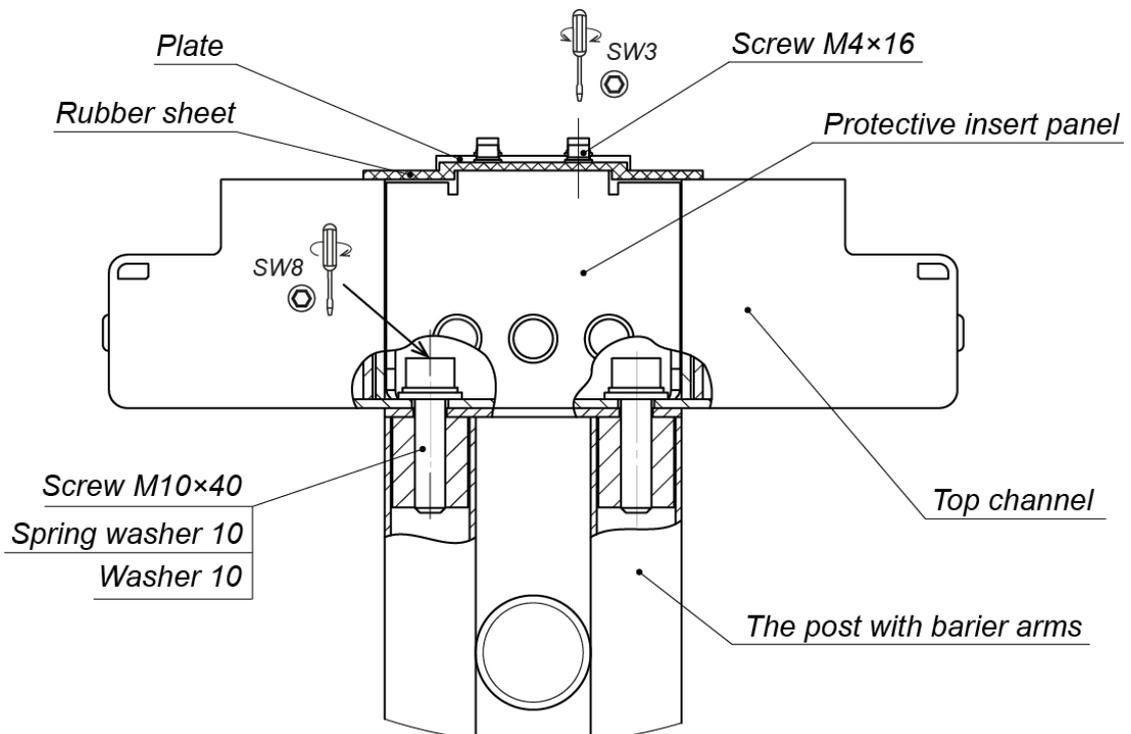
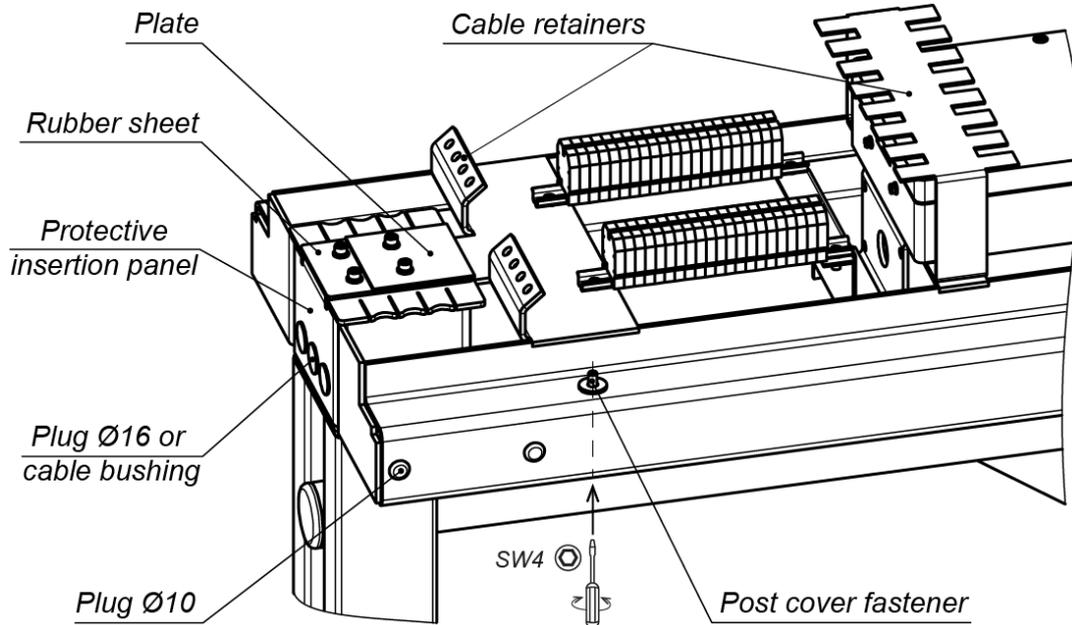

Figure 17. Top channel (8) to barrier section (5) fastening
Figure 18. Top channel elements
- Fix the top channel to the post with barrier arms (5) with two bolts M10×30, the key SW8 (Fig. 17) (for more convenient access to the wholes four it is recommended to remove the barrier plate, rubber sheet and protective insert, unscrewing four screws M4×16 with the key SW3 (Fig. 18).
27. Place the cover (9) upon the top channel(8):
- Screw four captive screws M5 (wrench SW4) up, the screws are fixing the cover of the top channel (Fig.18).